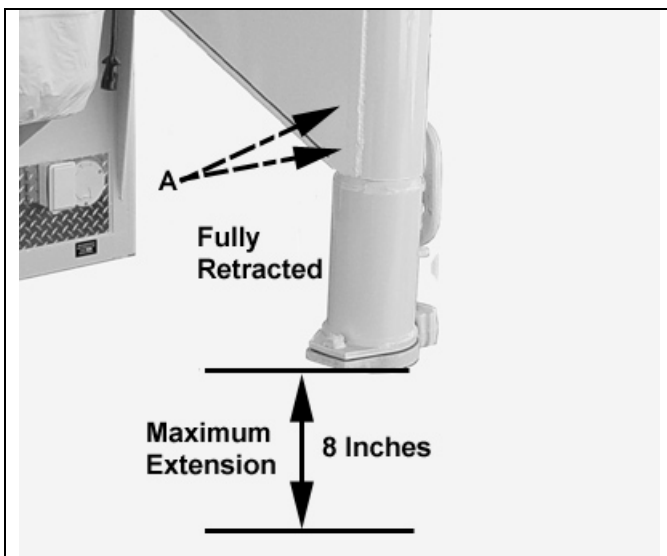

Figure 5-4 - Gooseneck Coupler Height Adjustment
- Loosen the jam nuts and set screws (A). See figure 5-4.
- Tighten setscrews (A) to 75-100 lb/ft of torque. Tighten jam nuts to 80-90 lb/ft of torque.